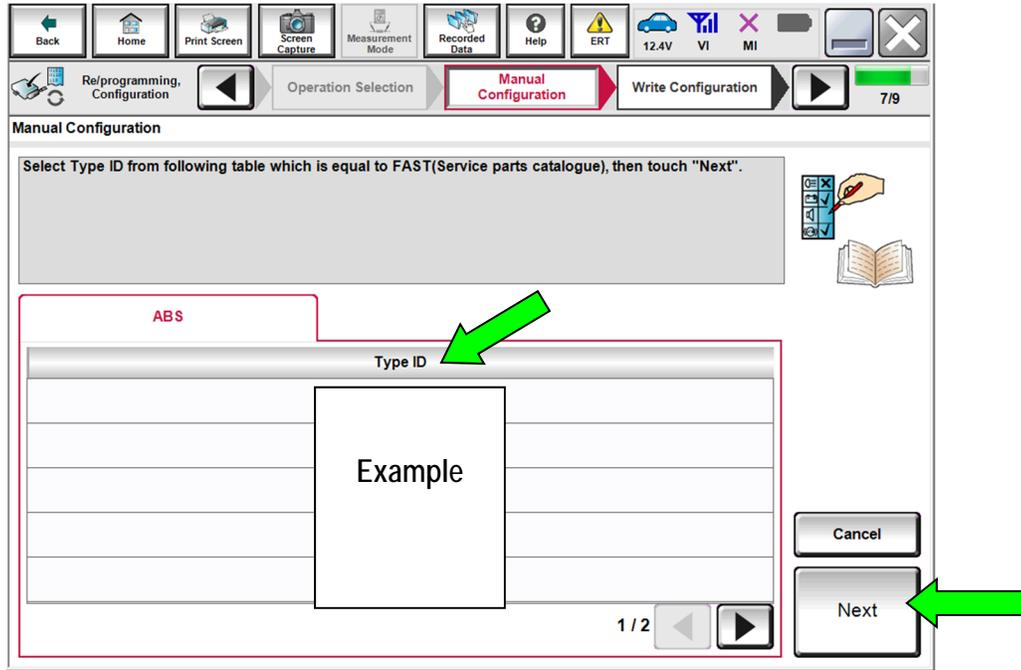

Figure 11
17. Select the Type ID (Figure 11) that was generated with the R1917/R1921 ABS Part Number Selection Tool in step 2.